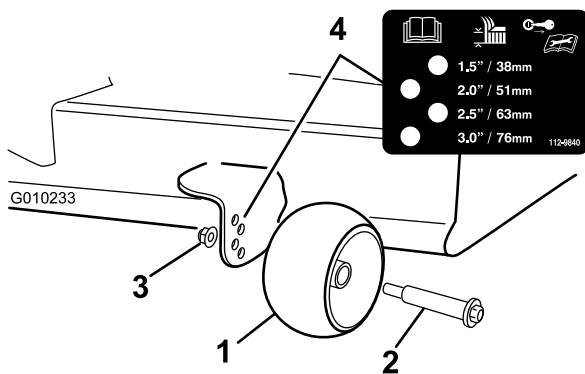

Figure 27
3. Adjust the anti-scalp rollers (Figure 27) to match the closest height-of-cut position.